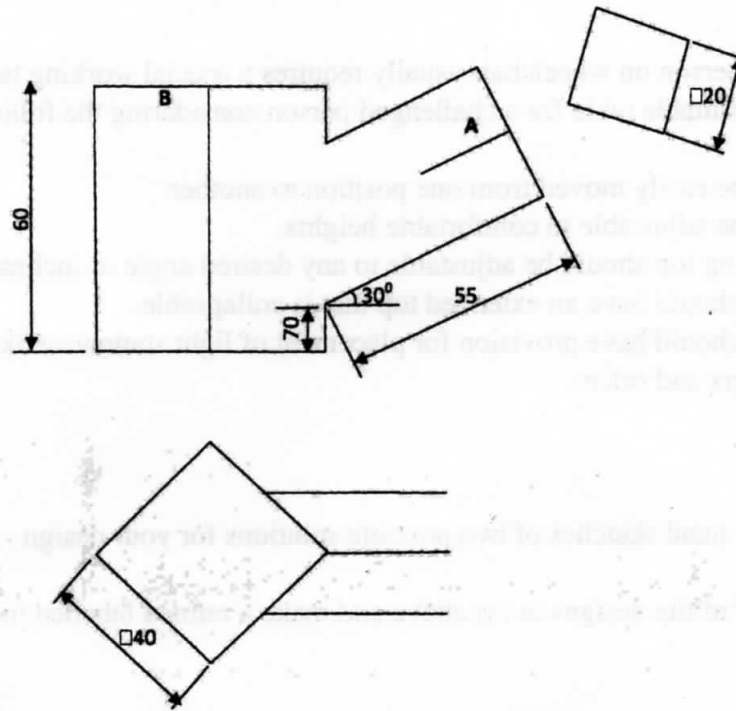

Figure 9
- 14 **Figure 9** shows two intersecting square tubes A and B drawn in 1st angle projection.